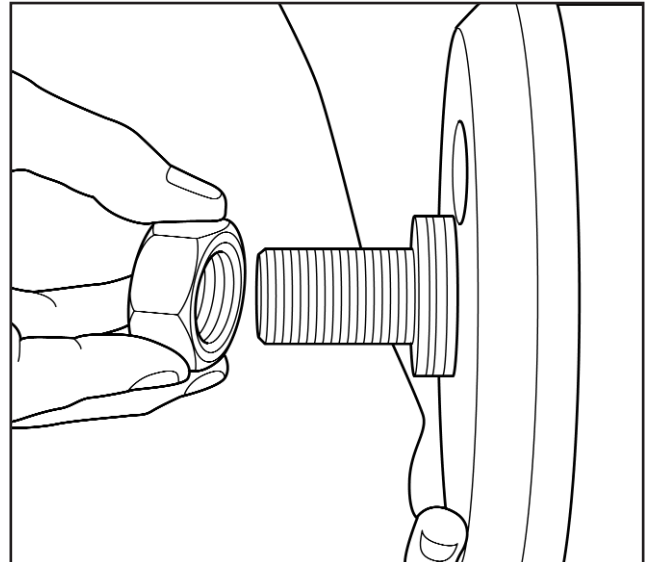

Fig 4.30
14. Attach the Rear Bush Tool (RBT) "F" to the funnel "D" and secure in place with the bearing cups, bearing race "B" and nut "A" (Fig 4.30)